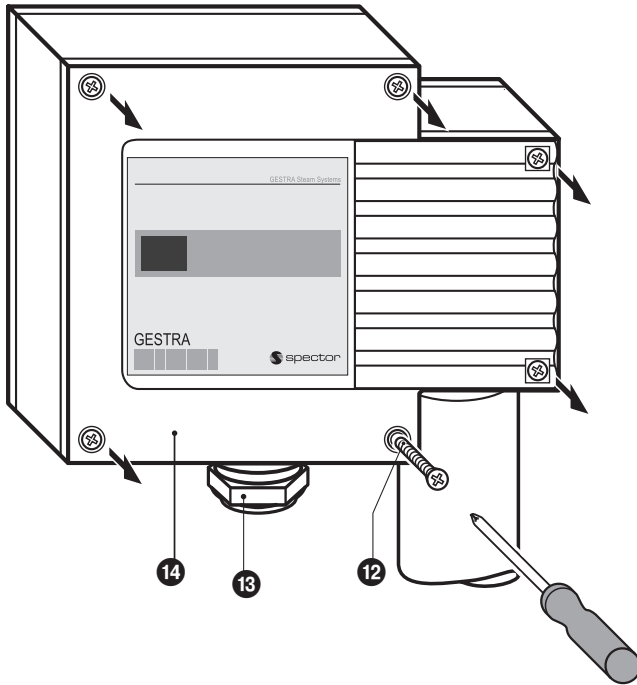

Fig. 13
1. Loosen screws ⑫ and remove housing cover ⑬. **Fig. 13.** The arrow on the name plate points towards this cover.
1. Loosen screws 12 and remove housing cover 14. **Fig. 13, 14**